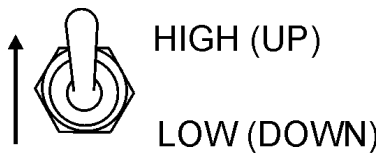

Figure 49. Engine Speed Switch (high)
8. Once the engine is warm and the engine is running properly, set the engine speed switch to 'High' (Figure 49).